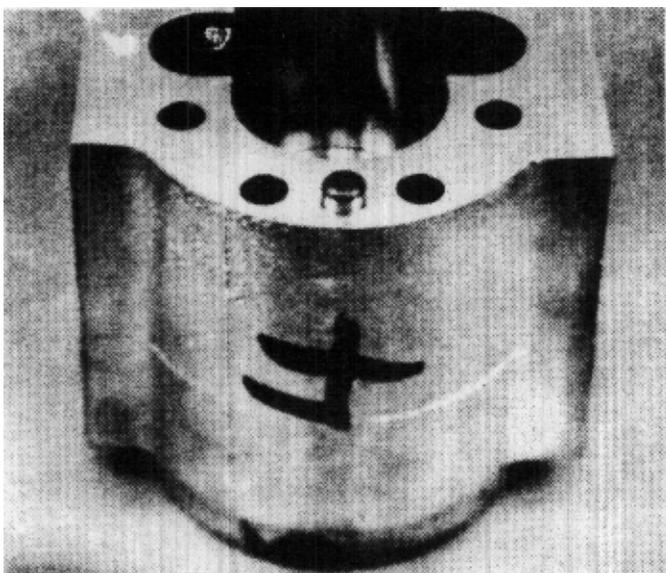

FIGURE 91
27. Take cover plate (23) and place it on a clean flat surface with the o-ring groove facing up. Install o-ring (20). (SPM20 only)
28. Place the motor body (4) on the cover plate (SPM20) with the gear bore facing up. Make sure that the mark made in, Step 2 is facing you. (If a new body is used, it does not matter which way the body faces.) (Fig. 91)